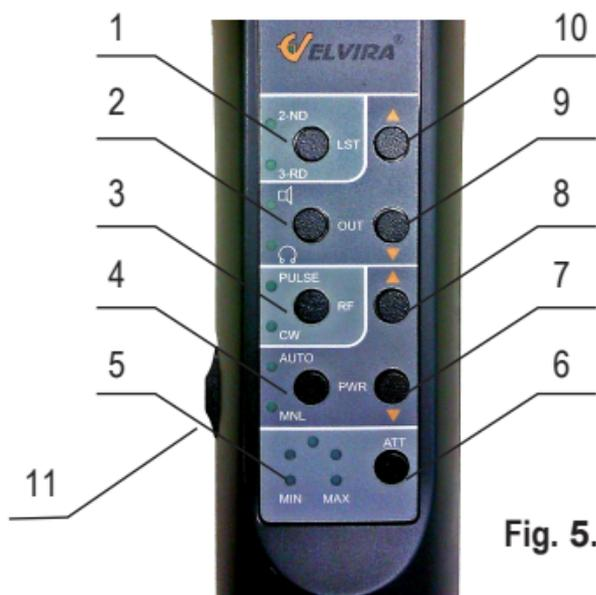

Fig. 5.
- 4.3.** The control panel is used to control operation of the detector. It consists of the case combined with a battery and fixed on the arm. The control board, buttons for operation modes control and display LEDs are placed in the package. The control buttons are divided into two groups by their function: «AUDIO» placed in the upper half of the panel and «POWER RF» in the lower half. The control panel is shown in Fig.5